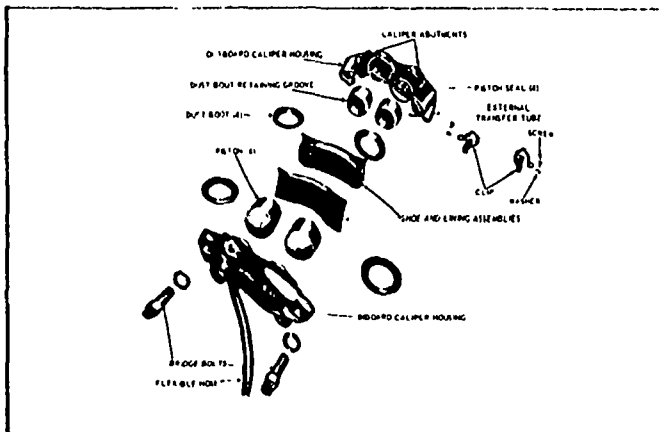

Figure 21—Fixed Caliper Assembly—Exploded View
NOTE: Do not remove the bridge bolts that hold the two halves of the caliper together. The caliper is shown separated in Figure 21 for illustrative purposes only.
1. Remove the two attaching bolts and the caliper splash shield (Fig. 21).
5. Carefully install four new dust boots on caliper housings and pistons. Be sure each boot fully seats in the groove of its respective caliper housing and piston (Fig. 21). **DO NOT INSTALL USED DUST BOOTS.**